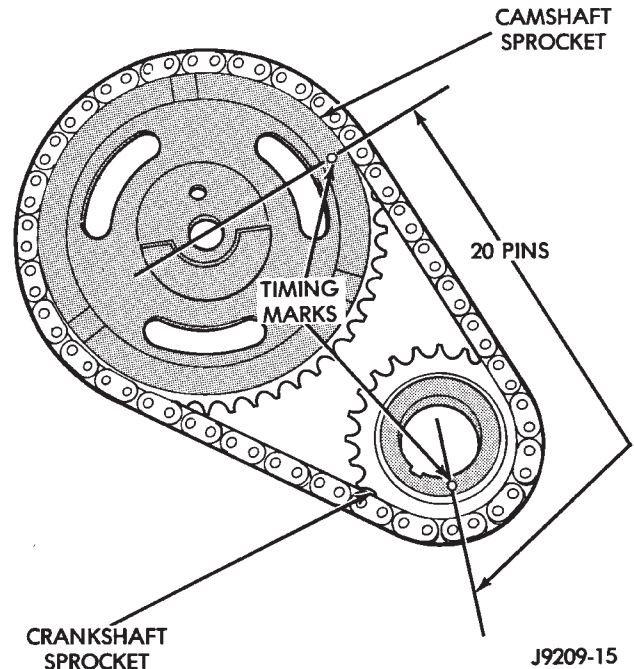

Fig. 52 Verify Crankshaft—Camshaft Installation
- (5) To verify correct installation of the timing chain, turn the crankshaft to position the camshaft sprocket timing mark as shown in (Fig. 52). Count the number of chain pins between the timing marks of both sprockets. There must be 20 pins.
- (6) Install the crankshaft oil slinger.